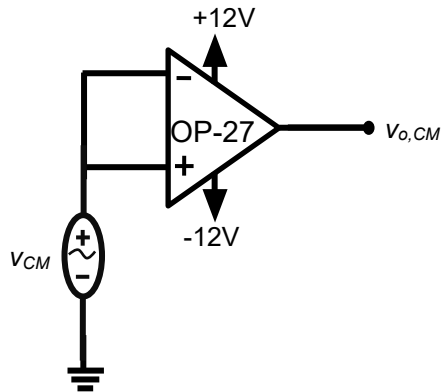

Figure 7. Common mode circuit
1. Using the OP27 op-amp, connect the circuit as shown in Figure 7. Apply a 10 V peak-to-peak sine wave at 200Hz from the function generator to the inverting and non-inverting inputs as shown.
1. Diagram of circuit of Figure 7. (1 pt)